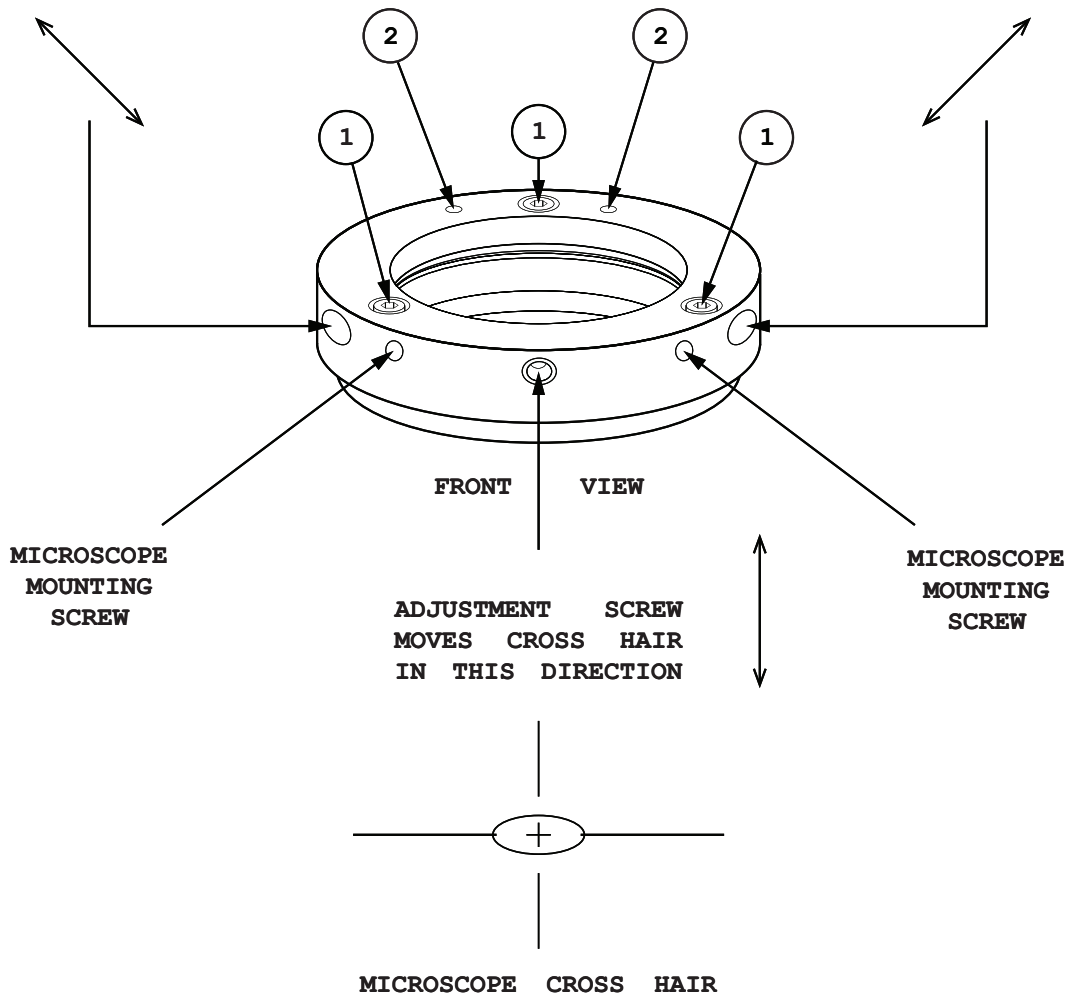

Figure 4
1. Place the stereo microscope into the mounting bracket. **(figure 4)**
2. Secure the microscope to the body of the welder by tightening the two (2) mounting screws. The mounting screws are located between the center, left, and right adjustment screws (see the diagram on the next page for details and a visual reference).